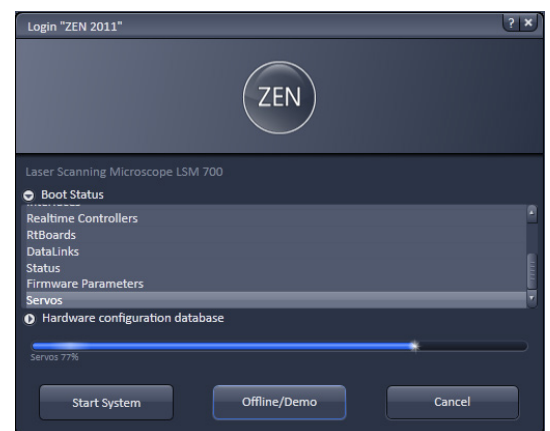

Fig. 8 Starting the ZEN software – The Login "ZEN" dialog with Boot Status field expanded and during the process of booting
- **Cancel** to abort the booting process and to leave the dialog. Note that the **Cancel** button will appear in the place of the **Image processing** button only if **Start System** or **Offline/Demo** was selected (Fig. 8).